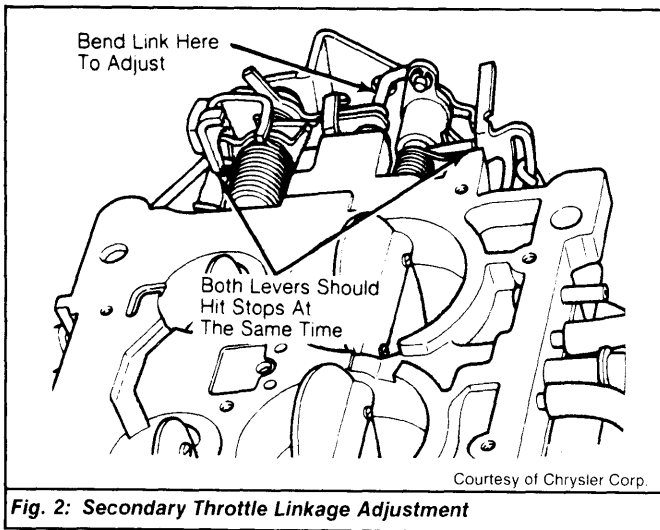

Fig. 2: Secondary Throttle Linkage Adjustment
- 2) Primary and secondary levers should both contact stops at the same time. To adjust, bend secondary throttle operating rod. *Fig. 2.*